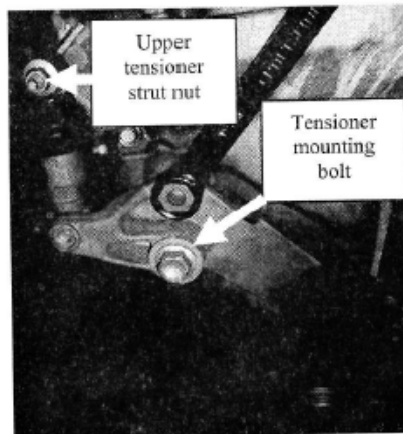

Fig 2
4. Release the serpentine belt tension using a serpentine belt tensioner release tool or a 19 mm box end wrench to rotate the tensioner arm in the clockwise (down) direction. This must be done slowly (3 seconds). Fig 2
6. Remove the upper tensioner strut nut. Fig. 2.